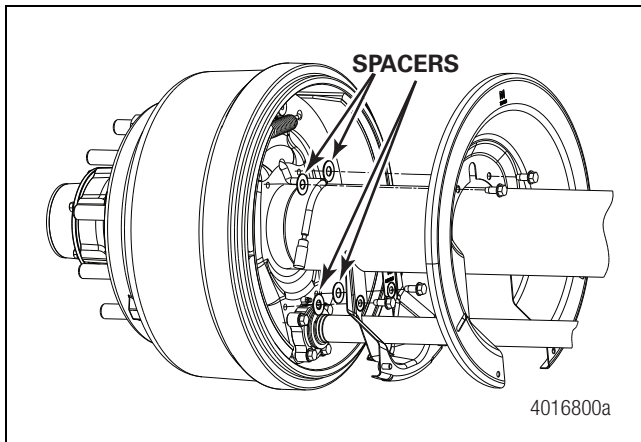

Figure 7
9. Check the gap between the dust shield and drum to ensure there is no interference. Each dust shield kit includes spacers to increase the gap between the back face of the drum and the dust shield. If necessary, add spare spacers between the spider and dust shield, as shown in Figure 7, to eliminate any interference between the drum and dust shield.